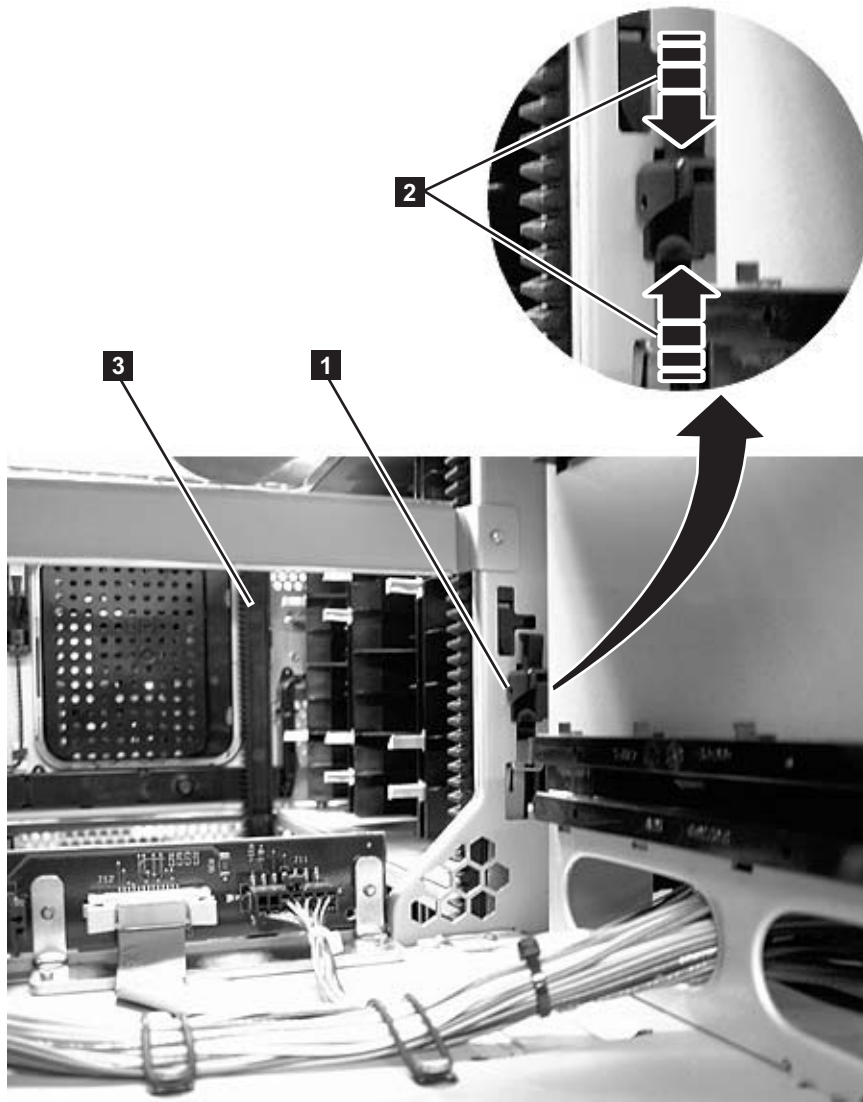

Figure 8-2. Gear racks and gear rack locking mechanism
3. Disengage the rear (**1** in Figure 8-2) and front (**3** in Figure 8-2) gear racks in the control module. While pinching the gear rack locking mechanism (**2** in Figure 8-2), push the gear rack up until it locks in place.